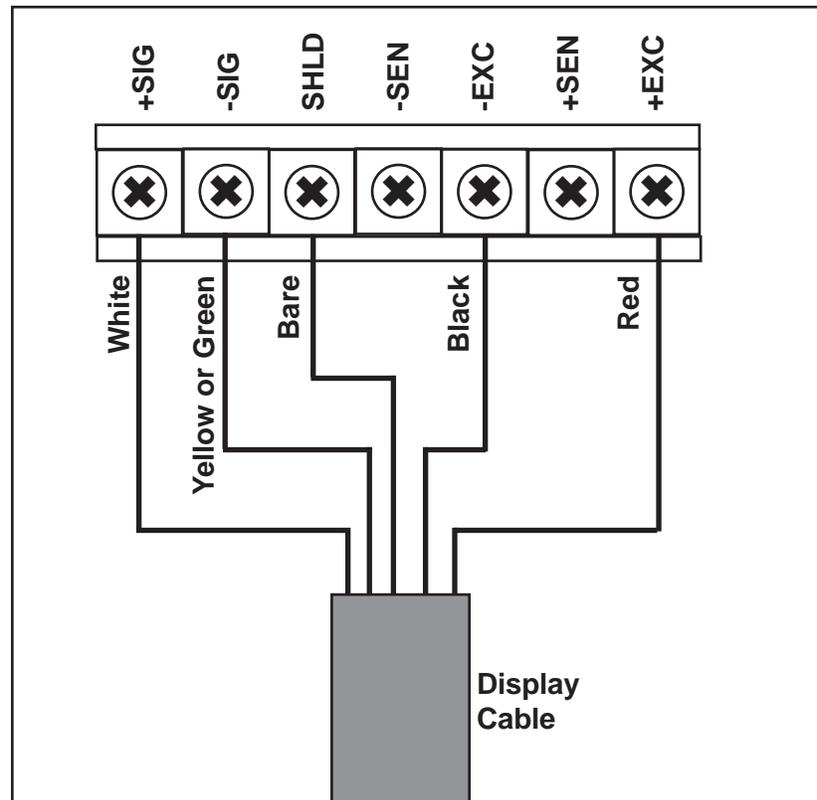

Figure 45. Connecting Display Cable Wires to Summing Board Terminal Block
2. Connect the five wires from the cable to the terminal block as shown in Figure 45. **Note:** Terminals **-SEN** and **+SEN** are not used.